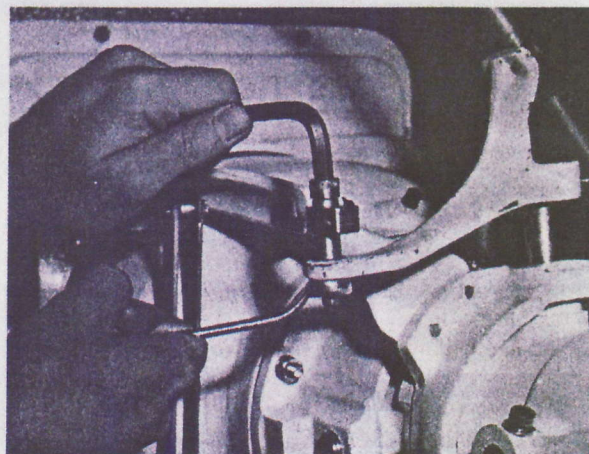

Figure 10
Jet-Drive attach steering swivel to tiller using 3/8"-24 socket head capscrew (27) 1/8" long spacer (28) 1/2" spacer (29) and lock nut (26) as shown in inset on Parts I. D. Drawing H-2846 and in Figure 10. Jam lock nut against tiller, allowing free rotation of steering swivel. Note that steering swivel is mounted below Model 12JB tiller arm.